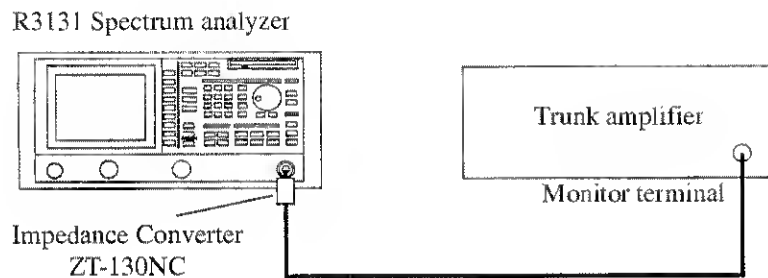

Figure 2-66 Setup for Measuring the VA Ratio
1. Connect the trunk amplifier as shown in Figure 2-66.